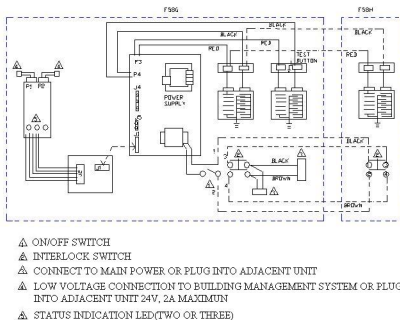

Fig. 6 WIRING DIAGRAM FOR F58G CONNECT WITH F58H
- Wire the electronic air cleaner directly to the correct voltage and frequency electrical source. See Fig. 6.